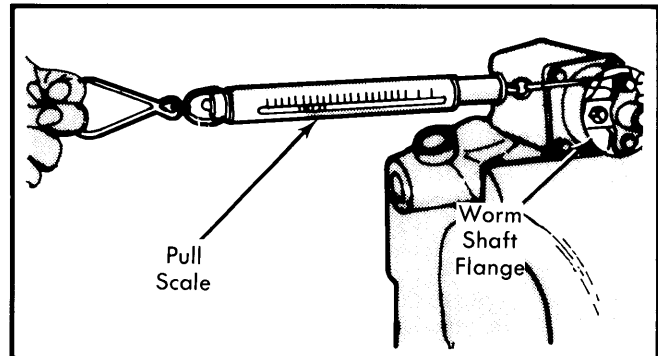

Fig. 3 Measuring Steering Gear Starting Torque
3) At this point, measure starting torque of pinion shaft. See Fig. 3. Reading should be 2.6-5.2 lbs. (1.2-2.4 kg) when coupling begins to rotate. If not within limits, add or remove shims as necessary.
5) Check total gear preload (starting torque) using pull scale as shown in Fig. 3. If reading is between 4.3-10.5 lbs. (2.0-4.8 kg), no further adjustments are required. If correct specification is not obtained, turn adjusting screw until preload is within specifications. Tighten lock nut.